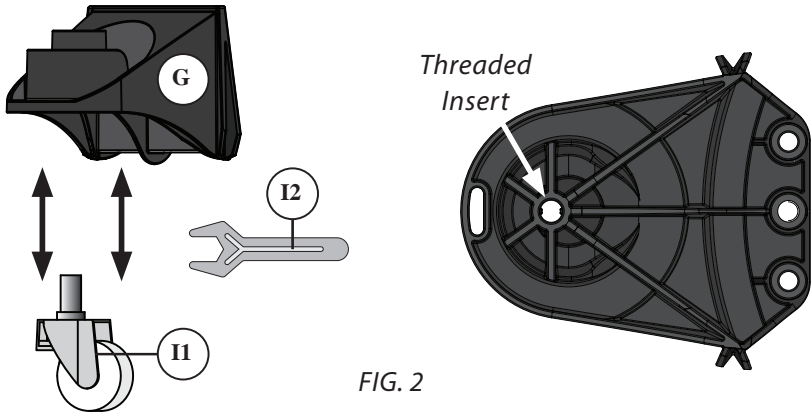

FIG. 2
- 2 Thread the Wheels (I1) into the threaded insert on the bottom of the Caster Mounts (G). Securely tighten using the included Wrench (I2) [FIG. 2].